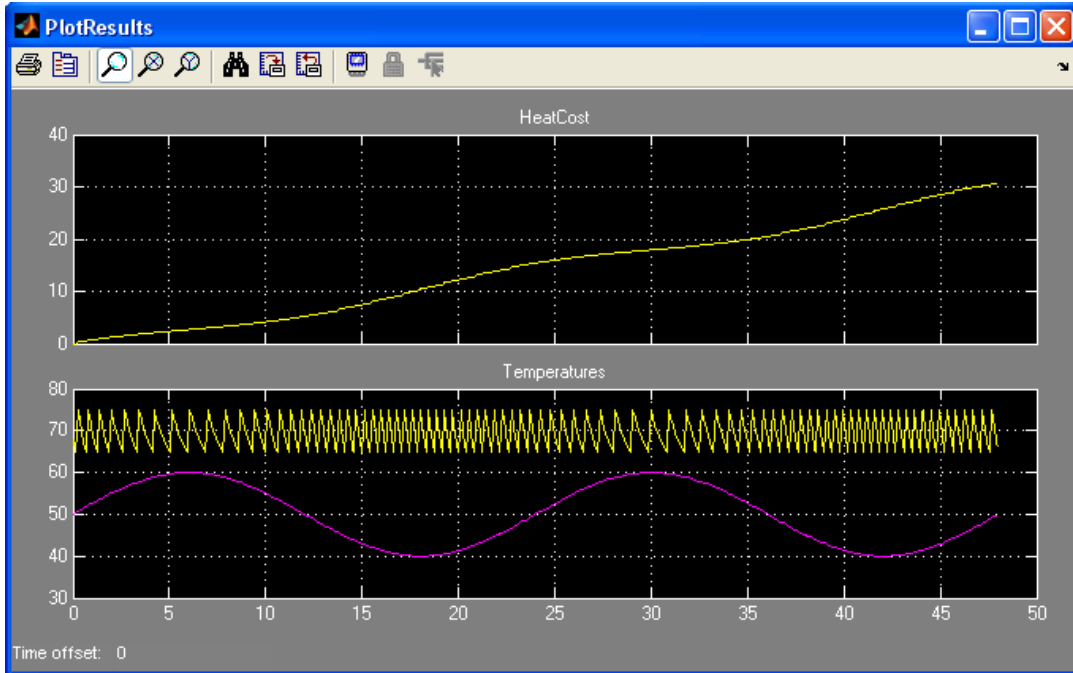

Figure 7.9 Plot Results window during Simulink execution
- a. During ParaMagic execution, MATLAB will launch and several figures will appear briefly on your screen, including the Simulink model diagram from Figure 7.1 and the PlotResults graph shown in Figure 7.9. The PlotResults window shows the cumulative cost in the upper window over a two day period. The lower window shows the outdoor temperature (violet) and the indoor temperature (yellow) on the same time scale. The target indoor temperature is a constant, 70 F, set inside the Simulink model (although the model could be modified to treat this as an input from SysML, as well), but the actual indoor temperature varies as the thermostat cycles on and off.